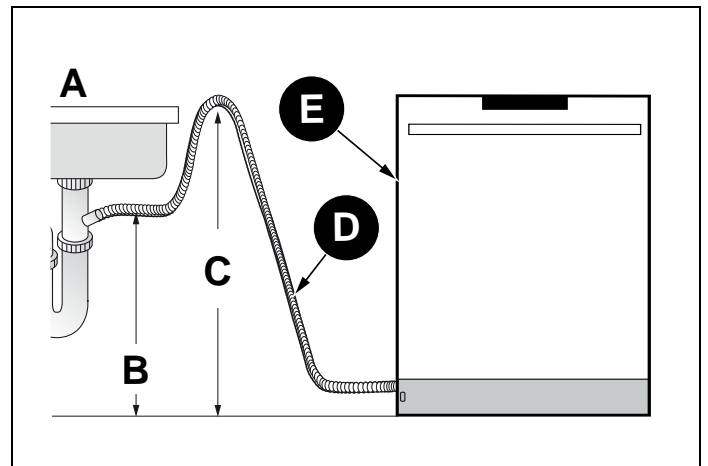

Fig. 20
5) If there is no air gap, make sure to suspend the middle of the drain hose well above the sink cabinet base to prevent back flow (see Fig. 20).